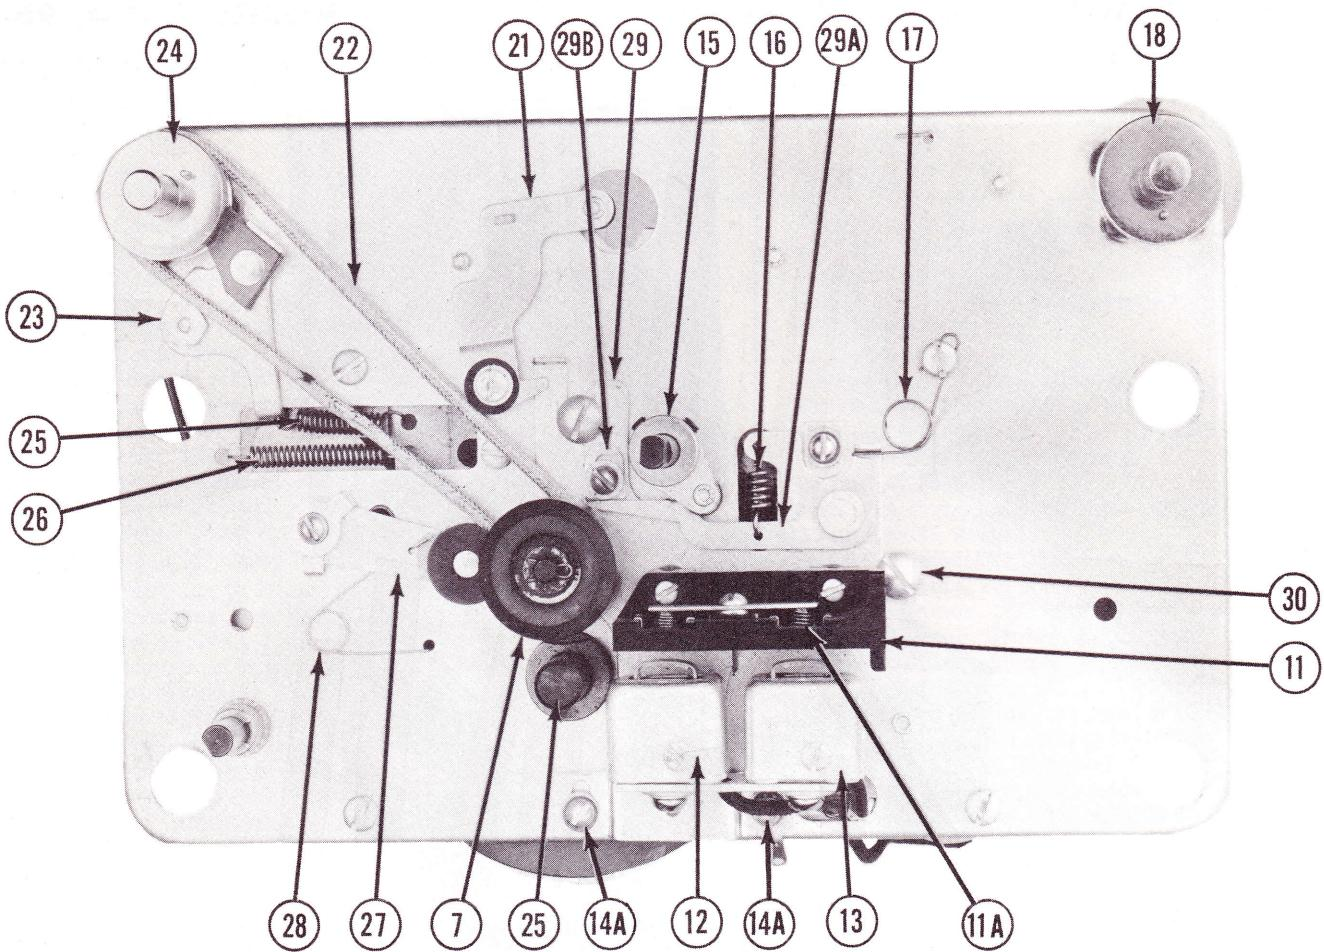

Figure 2
Set the pressure lever (15), see Figure 2, so that it is perpendicular to the pressure arm (29A) when the control knob is in the Record-Playback position. Also adjust the arm adjusting plate (29B) so it will clear the pressure arm (29A) by $1/64''$ when in this position.
The head pressure is adjusted by means of the two screws (14A) in the slotted holes in the head bracket (14). See Figure 2. To make the adjustment, turn the control knob (1) to "Record-Play" position. Loosen the screws (14A) then adjust the head into the tape guide block (11) until the pressure pads (11A) show a movement of slightly less than $1/32''$ on the reverse side of the tape guide (11).
4. Check pressure roller lever (15) to see if it is perpendicular to the pressure arm (29A). When in the "Record-Play" position. See Adjustments on "Pressure Lever and Arm Adjusting Plate".
5. Drive roller (57) or pressure roller (7) eccentric. Allow mechanism to run for 20 minutes. If after this time the rollers are still eccentric, replace with new rollers.
7. Detent spring (26) not properly connected. See Figure 2. If spring (26) is not connected, the detent slide (36) will not be held against the detent lever (38) resulting in the motor drive pulley (57) not being held in firm contact with the capstan.